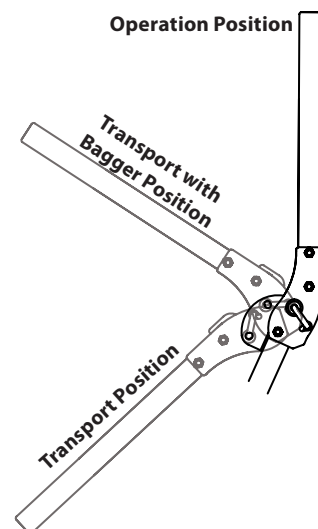

Figure 3-2
Refer to Figure 3-2 and the following descriptions and uses for the three (3) positions for the ROPS.
2. Move the ROPS into the desired position. The three positions are TRANSPORT (a) position, TRANSPORT WITH BAGGER (b) position and into the OPERATION (c) position. See Figure 3-2.